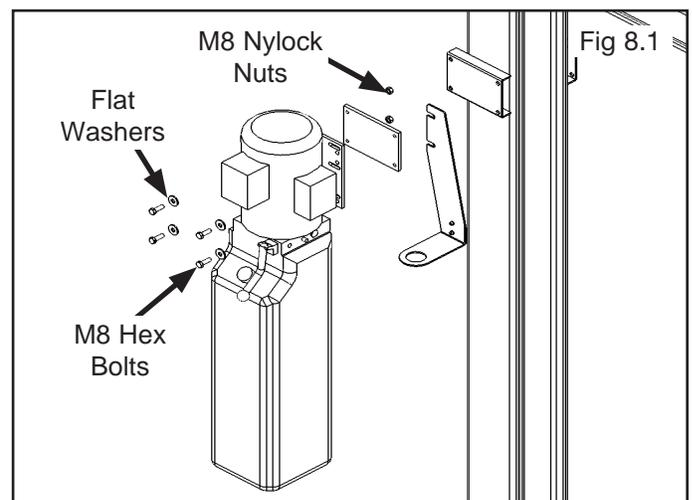

Fig 8.1
1. Mount the POWER UNIT to the Mounting Bracket using the Hex Bolts and Nylock nuts. Then FILL THE RESERVOIR with 21 quarts of 10-WT hydraulic oil or Dexron III automatic transmission fluid. (See Fig. 8.1)